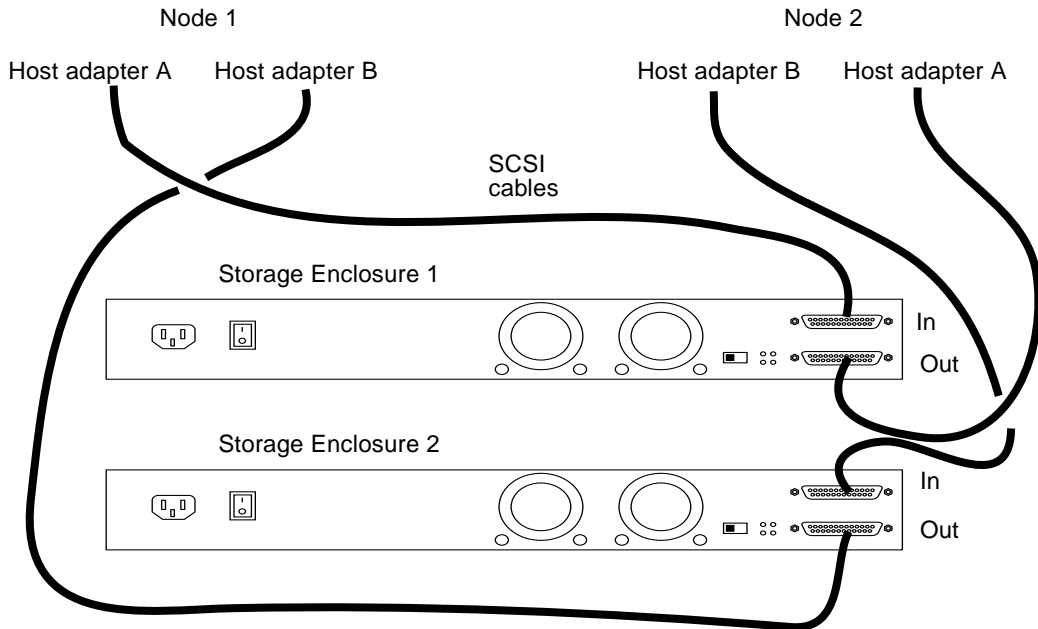

FIGURE D-6 Example of a Netra D130/StorEdge S1 enclosures mirrored pair
17. Connect the Netra D130/StorEdge S1 enclosures to the host adapters as shown in FIGURE D-6 using the appropriate SCSI cables. (Remove the SCSI terminator you installed in Step 5.)